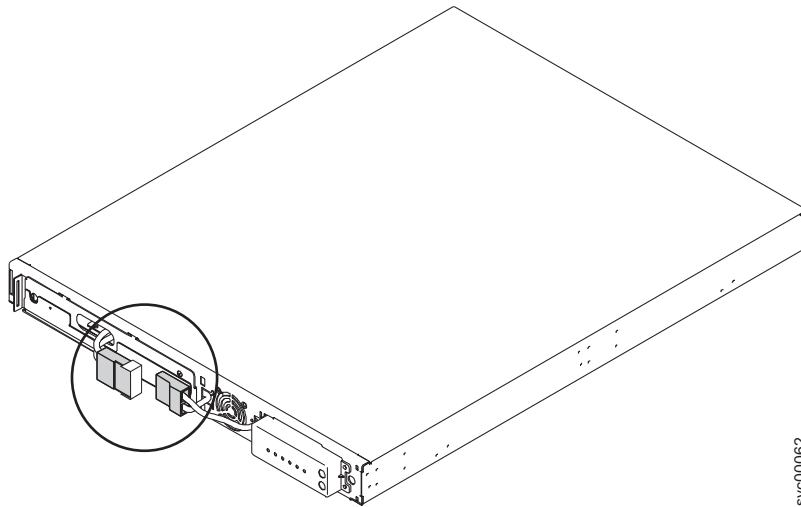

Figure 230. The 2145 UPS-1U internal battery connector with protective tape
7. After pulling the two connectors apart, cover the exposed battery connector (shown in Figure 230) with adhesive tape.